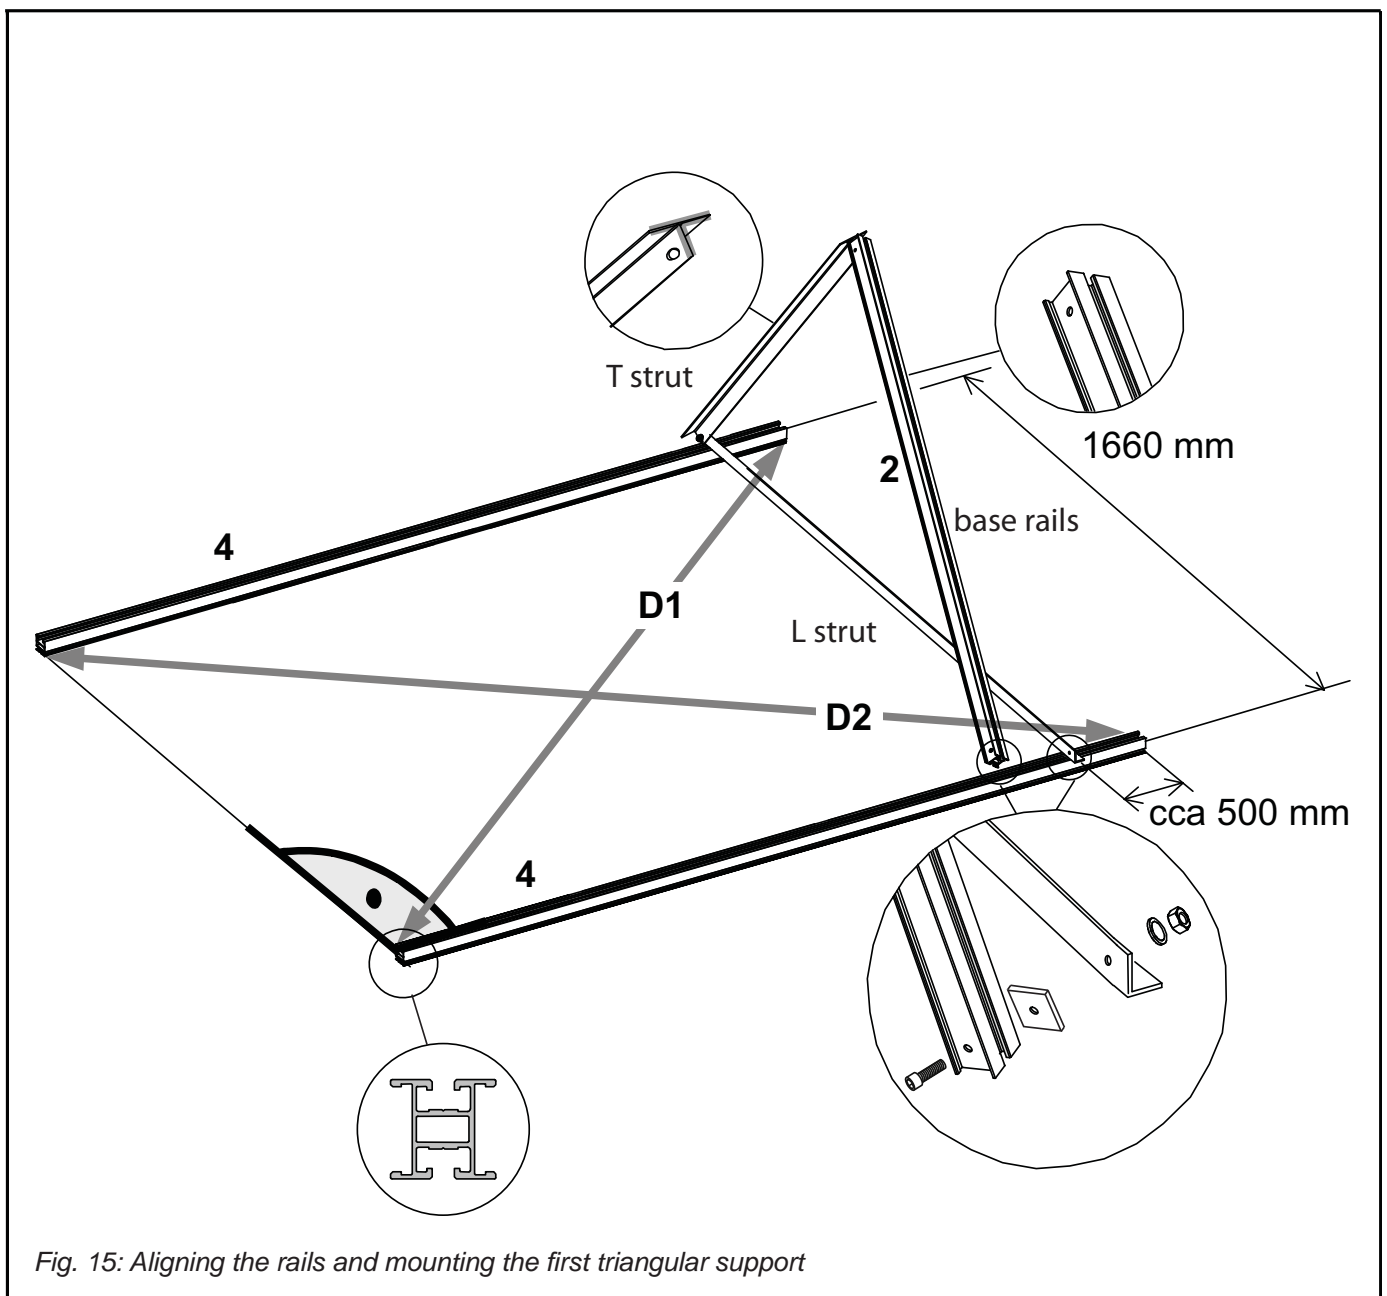

Fig. 15: Aligning the rails and mounting the first triangular support
- The diagonals between the rails shall be of the same length: $D1 = D2$ (Fig. 15)